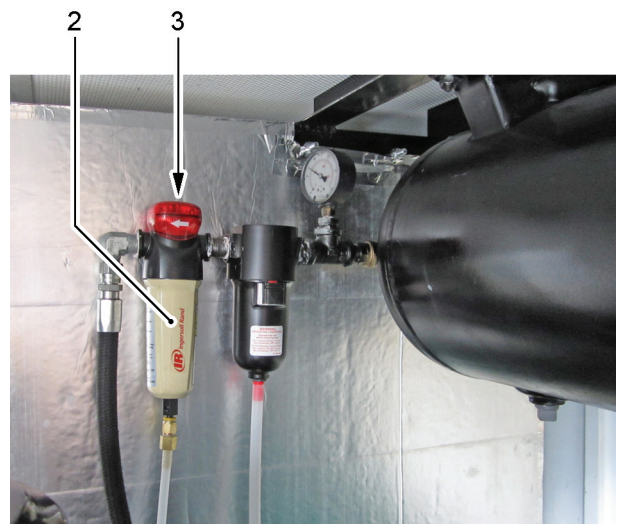

Figure 7.8 - Check and possibly replace the air filter cartridge of the compressed air system (Optional)
- open the access door to the engine (see Figure 7.8/1), situated on the rear part, by acting on the relevant handle (4), after having removed the locking padlock;